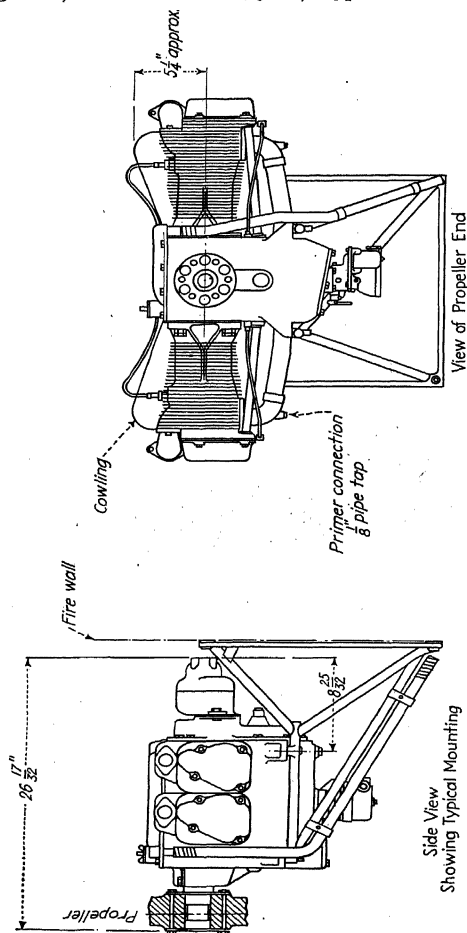

FIG. 7.—Details of mounting supports.
*Mounting the Engine.*—Installation diagram (Fig. 7) shows a typical engine mounting. It applies to models 4AC-150 and 4AC-171. The engine is bolted to the mounting at four points. A material similar to automotive brake lining should be used to insulate the engine from the mount at these four points. If, for any reason, it is necessary to remove the engine from the ship, care must be taken when replacing it. The same thickness of insulating material must be used at each mounting point, in order to ensure proper alignment of the mounting lugs and even tension on the crankcase.